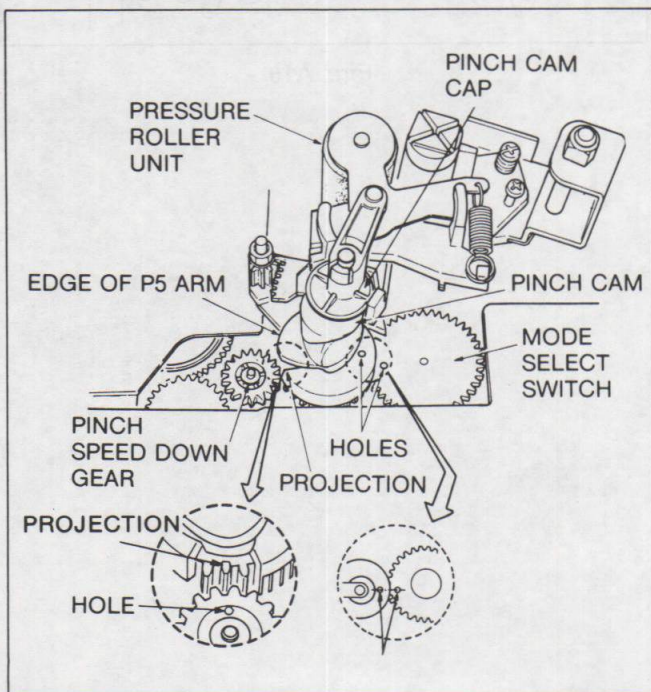

Fig. A18
1. Install the Pinch Cam so that the edge of P5 Arm comes into the Rift of Pinch Cam and Projection of Pinch Cam is exactly in line with the hole of Pinch Speed Down Gear, at this time, the hole of Mode Select Switch is exactly in line with the hole of Pinch Cam as shown in Fig. A18.